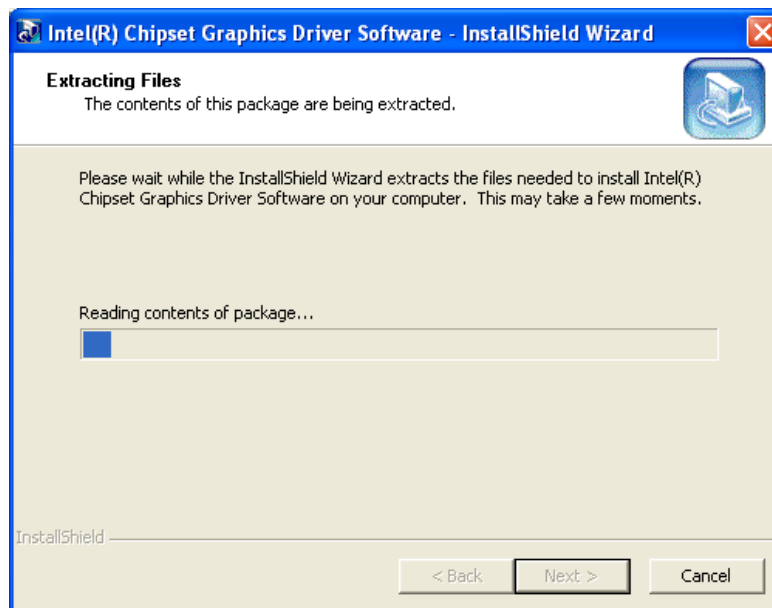

Figure 6-9: Graphics Driver Setup Files Extracted
Step 6: The installation files are extracted. See Figure 6-9.